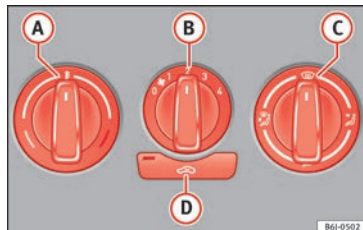

Fig. 165 Heating controls on the dash panel.
- Use turn controls **A**, **B** and **C**» Fig. 165 to adjust the temperature, blower speed and air distribution.
- Press button **D**» Fig. 165 and the lamp in the button will illuminate.
If the rotary switch **C** » Fig. 165 is in the thaw position, the recirculation flap will always be open and air will always enter from the outside.
- Turn the temperature selector » Fig. 165 **A** anticlockwise.
- Turn the temperature selector » Fig. 165 **A** clockwise to select the desired temperature.
- Turn the temperature selector » Fig. 165 **A** clockwise to reach the maximum temperature.
- Turn the temperature selector » Fig. 165 **A** to the heating area.